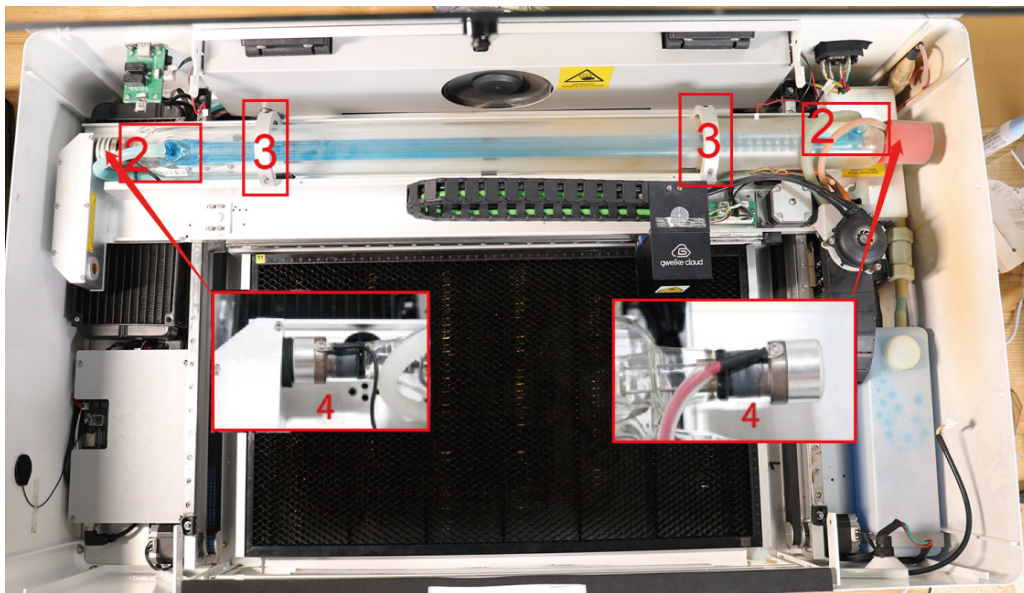

Figure 25
③ Remove the screws at the low voltage and high voltage (4) end, remove the water pipe (2), unscrew the pipe clamp (3), and take out the old laser tube (see Figure 25)